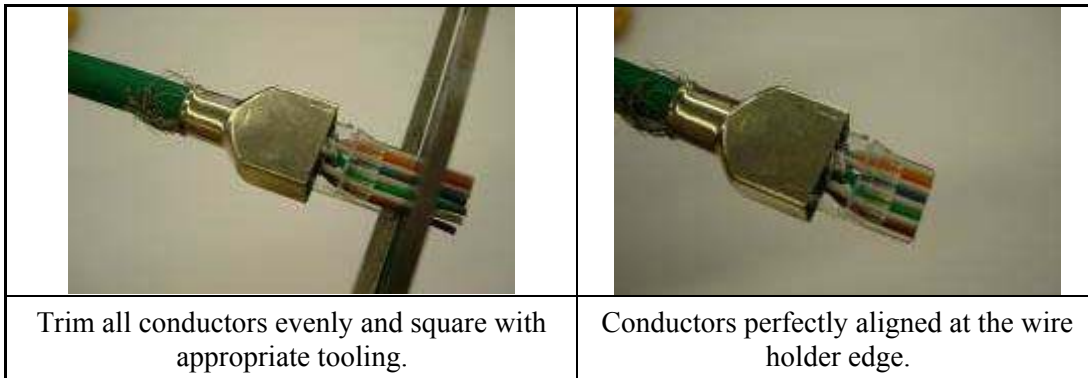

Figure D-13: Cable Positioning, Finish Trim
5. While holding all conductors down against the wire holder in a flat layer, trim all conductors evenly and square with appropriate tooling, just beyond the front edge of the wire holder, as shown in Figure D-13.